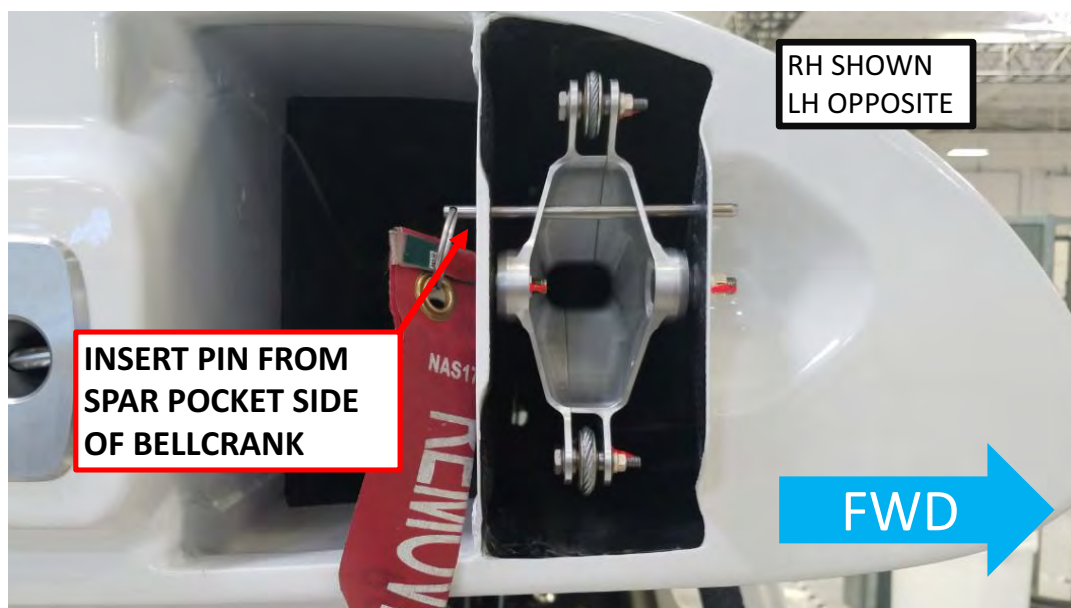

FIGURE 9-16
9. Fold both aircraft wings and install 2X .1875 in diameter rig pins at both of the wing socket bellcrank. See Figure 9-16.